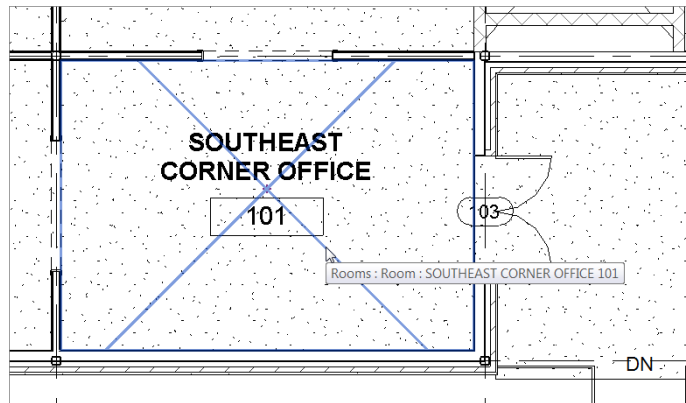

FIGURE 15.7: Hover the cursor over the room until the X appears.
2. Hover your cursor over the room until you see the X, as shown in Figure 15.7.